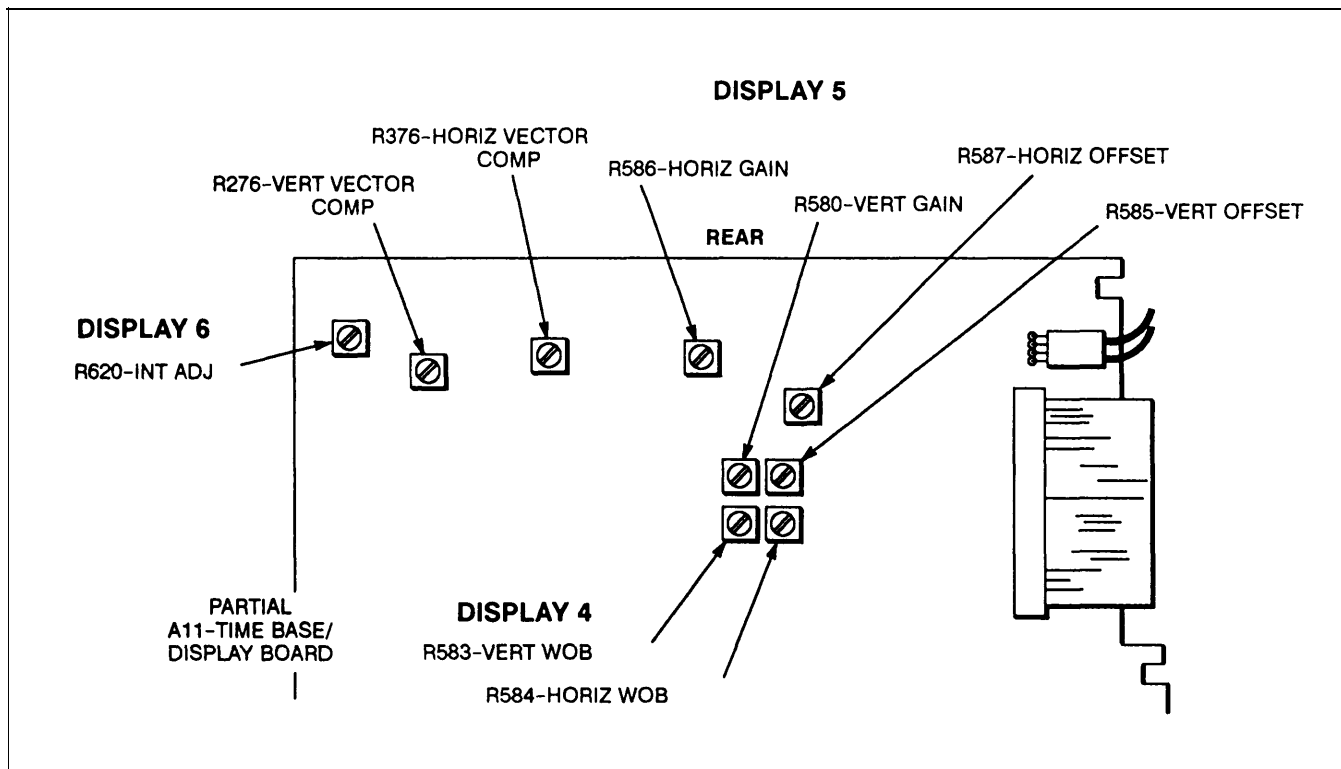

Figure 5-1. Adjustment locations for Displays 4 through 6.
- s. Press any menu button to advance to Display 4. Note that all adjustment controls associated with this display are located on the top circuit board near the rear of the instrument (see Figure 5-1).
- u. Press any menu button to advance to Display 5. Note that all adjustment controls associated with this display are located on the top circuit board near the rear of the instrument (see Figure 5-1).
- ab. Press any menu button to advance to Display 6. Note that the adjustment control associated with this display is located on the top circuit board near the left rear corner of the instrument (see fig. 5-1).